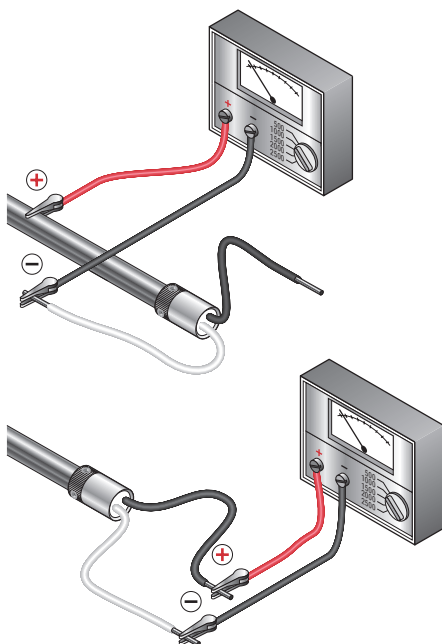

Figure 78: Testing IR between cable sheath and conductors and between conductor pairs
2. Connect the positive (+) (earth) lead to the cable sheath (Figure 78).
9. Next, remove the positive (+) (earth) lead from the cable sheath and connect it to one of the other conductors (Figure 78).